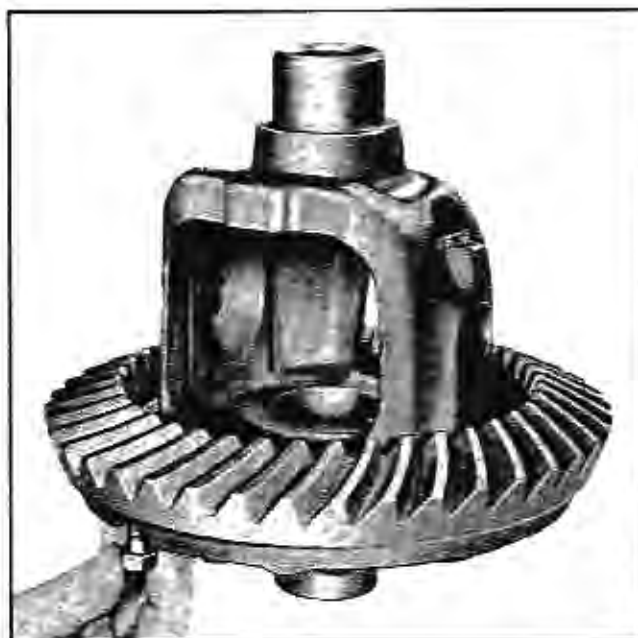

Fig. 4-55 Installing Ring Gear
3. Install ring gear attaching bolts. (Fig. 4-55). Tighten all bolts evenly and alternately to 55-60 lb. ft. torque.